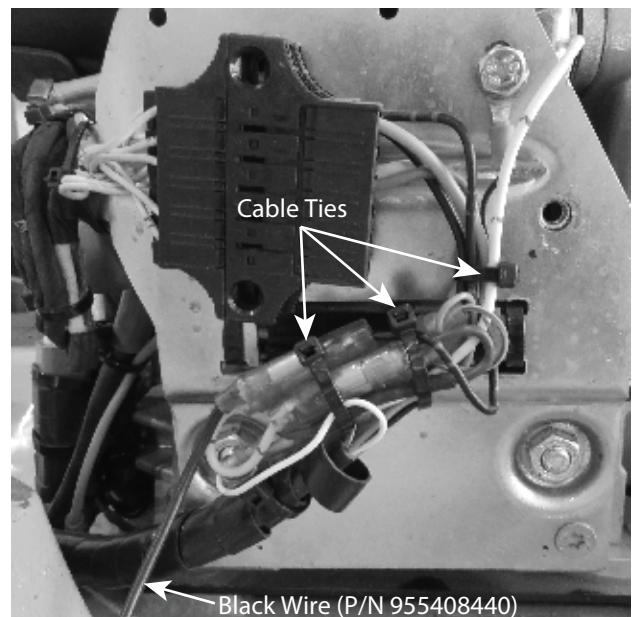

Figure 39. Rebundling Wire Connections
5. Rebundle the wiring connectors except the female end and wire of black wire (P/N 955408440) with cable ties. See Figure 39.